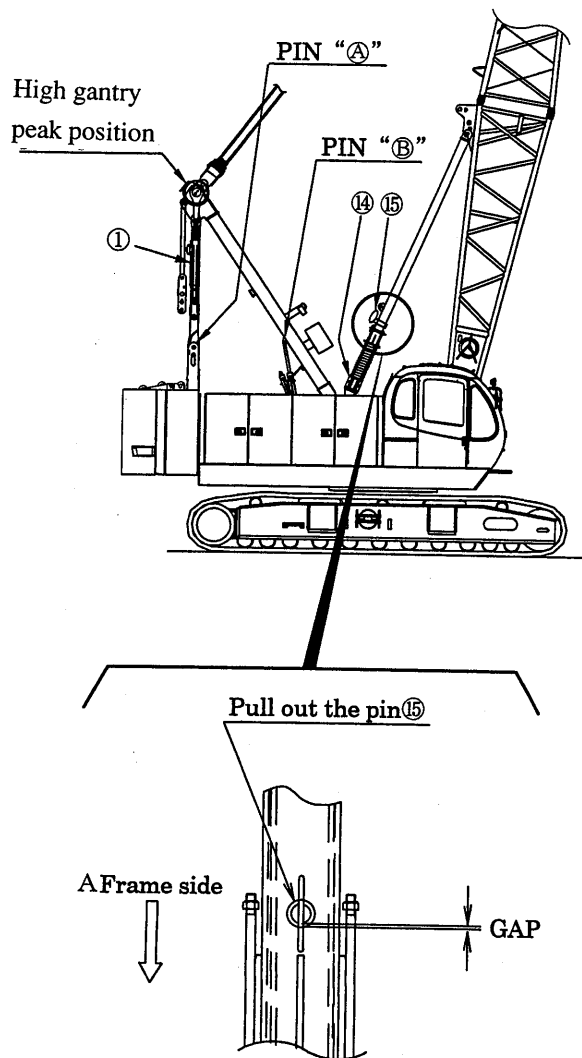

Fig 10-23
(6) Lower the gantry by boom lowering operation to the position "III". Then extend lift cylinder ① to lay the counterweight No. 1 down onto the ground.
(7) Remove the pin ⑩ from the counterweight No. 1.
(8) Travel the machine forward by 6.6 to 9.8 ft (2 to 3 m), or turn the machine 180° .
10.3.5 RESTORATION (FIG. 10-23)
- (2) Remove the pins ⑮ with flag inserted into the backstop. The pins can be easily removed by raising the boom a little (Fig. 10-23). Store the pins (with flag) in the bracket "B" (See Fig.10-4).